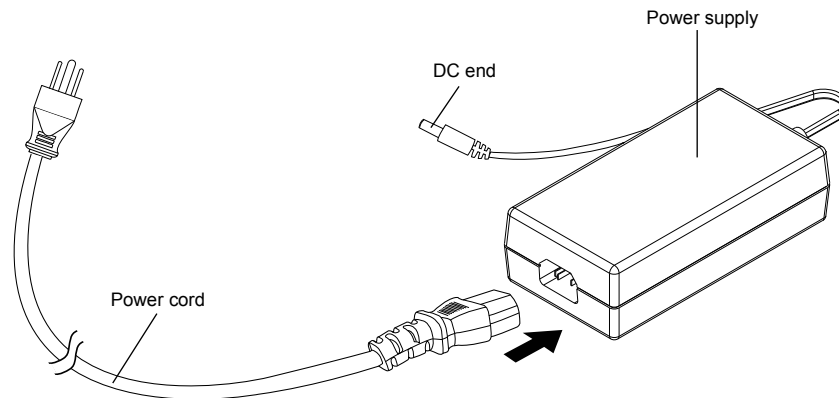

Figure 8. Connecting the power supply and cord.
1. Connect the socket end of the mains power cord to the 3-pin plug of the power supply (Figure 8).